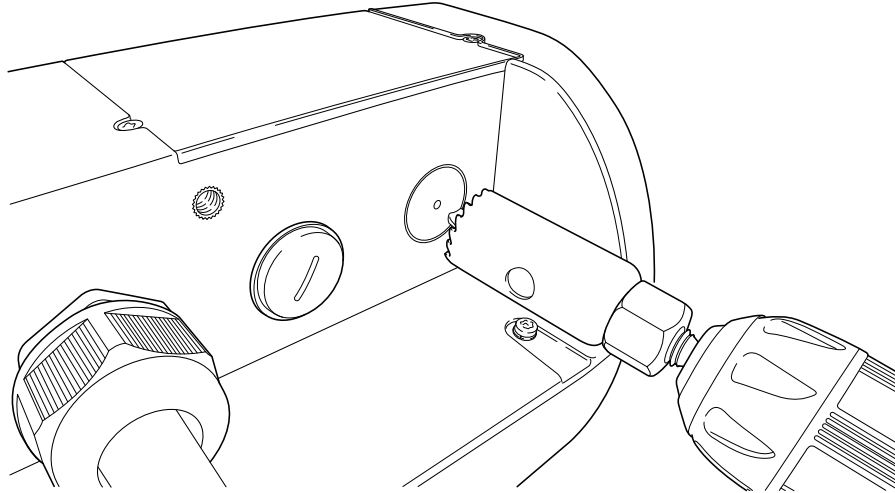

Figure 4-3. Drilling hole for conduit
- See Figure 4-3. Drill a hole of an appropriate size to accommodate the conduit system fitting in the bottom of the plastic housing as shown.